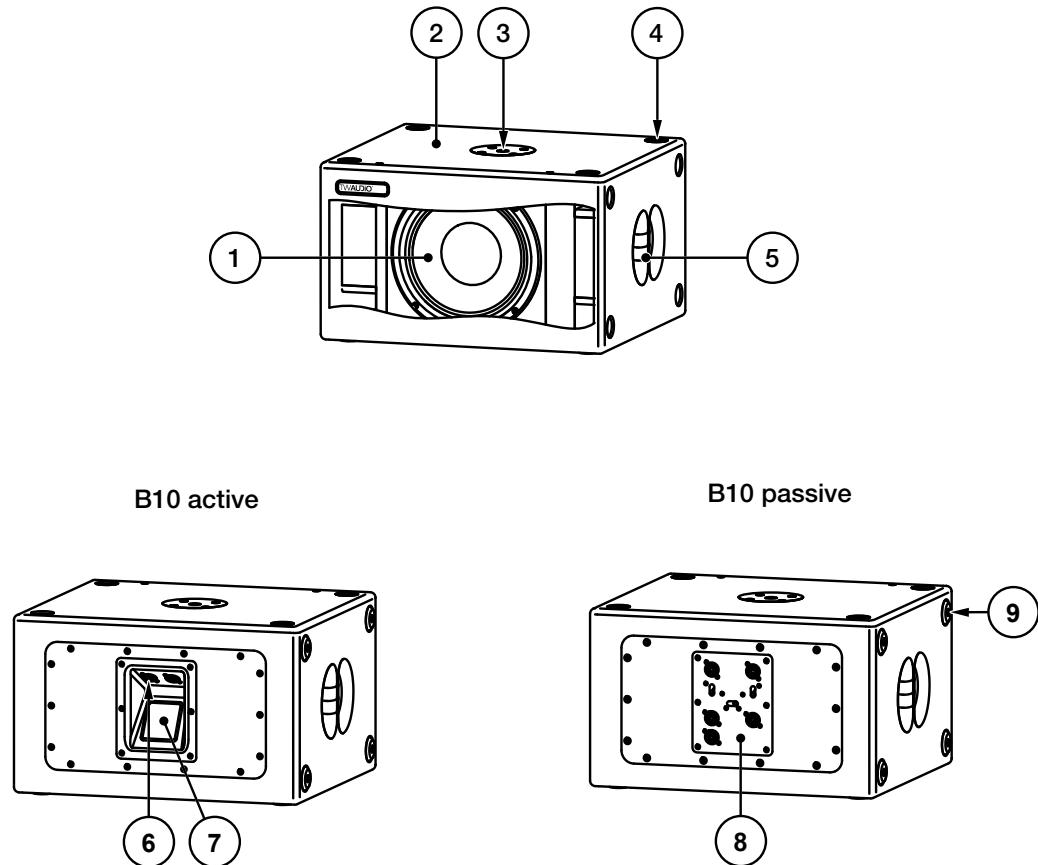

Figure 2.1 - Overview
The integrated passive crossover (item 8 “Figure 2.1 - Overview” on page 7.) has three selector switches that are described in the following chapter.
Make sure that the maximum load of 50kg / 110lbs for the M20 pole mount flange is not exceeded! Figure 2.1 – Item 2.
The M20 pole mount flange (figure 2.1- item 2) is not designed for side forces once mounted – do not apply any pressure from the sides.
Please note that only centered loads are allowed to be placed on the M20 pole mount flange – Figure 2.1 – Item 2.